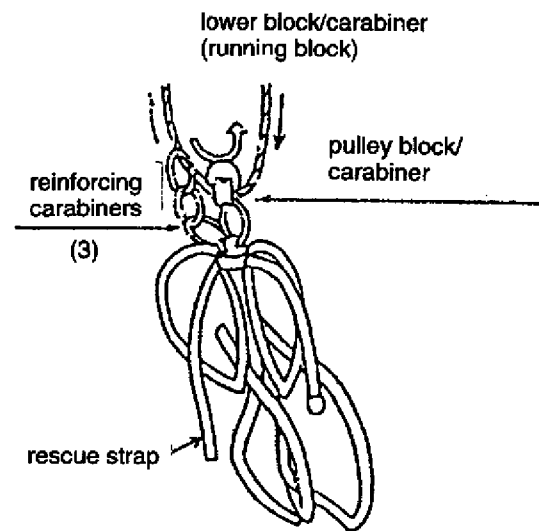

Fig. 7-20
(3) Setup
- Clip onto this rope a pulley block and carabiners (including reinforcing carabiners) to serve as a running block, and attach the rescue strap to this. (Fig. 7-20)